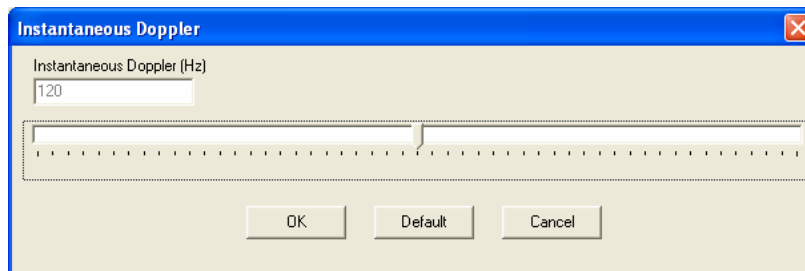

Figure 15: Doppler Selection Window
2. Select the desired Doppler in the Instantaneous Doppler window shown in *Figure 15*: